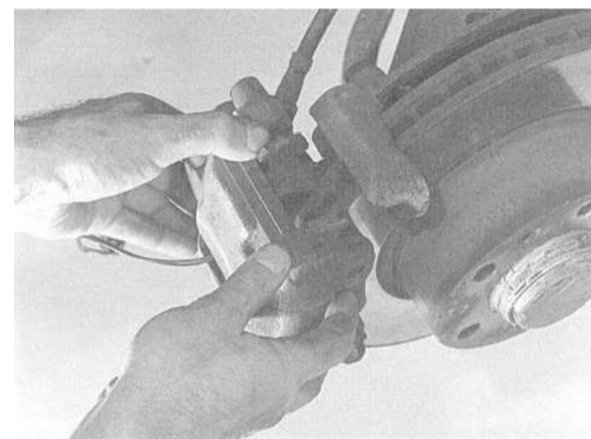

Fig. 4. Front brake caliper being removed.
5. Pull the caliper straight off the rotor. See Fig. 4.